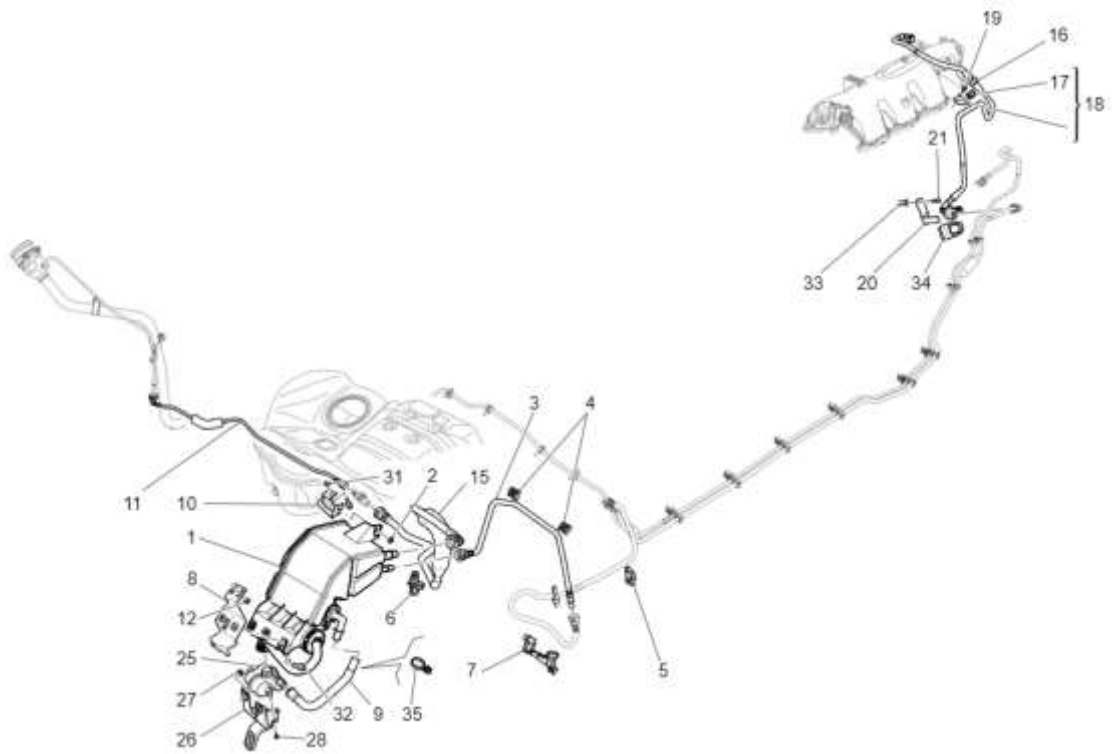
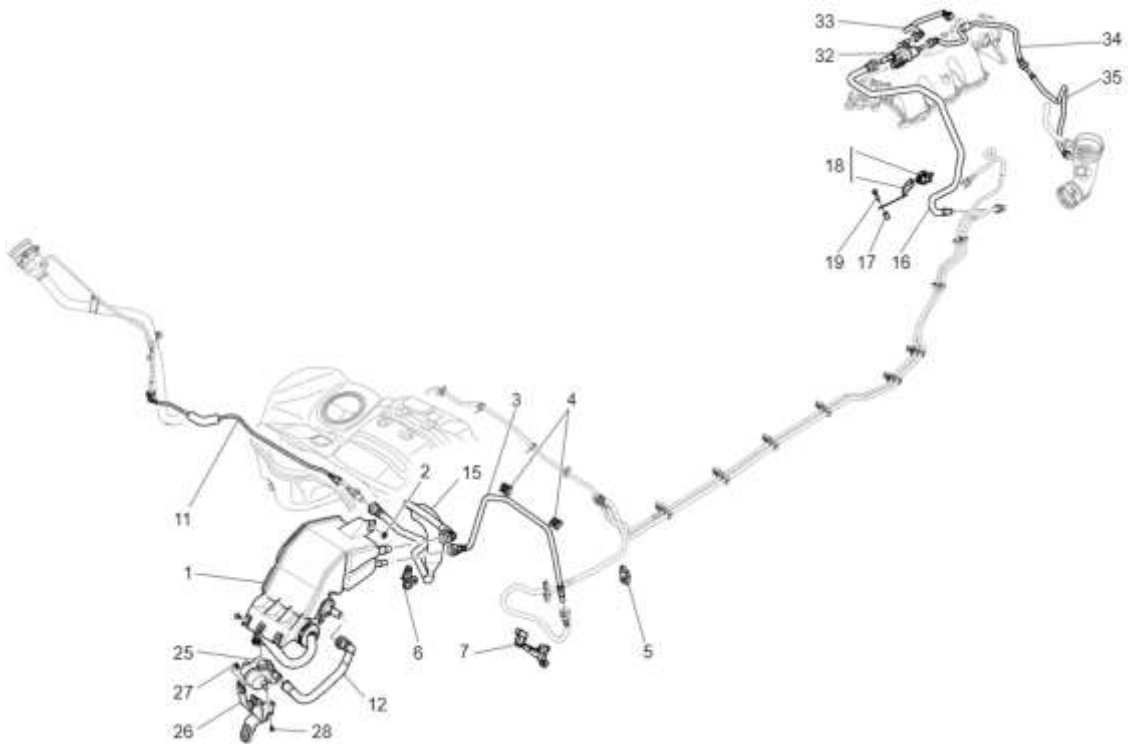

Figure 1: Fuel vapour recirculation system on Sedan models.
Figure 2: Fuel vapour recirculation system on Levante.
14. Verify that all the components of the Fuel vapour recirculation system are properly fitted and well connected. These include connection pipes, DMTL, Canister, air filter, tank, fuel filler neck (Figure 1, Figure 2) or possible leakage/ obstruction of all system (a smoke test is advisable for this purpose). Take pictures of the observed anomalies, if any.